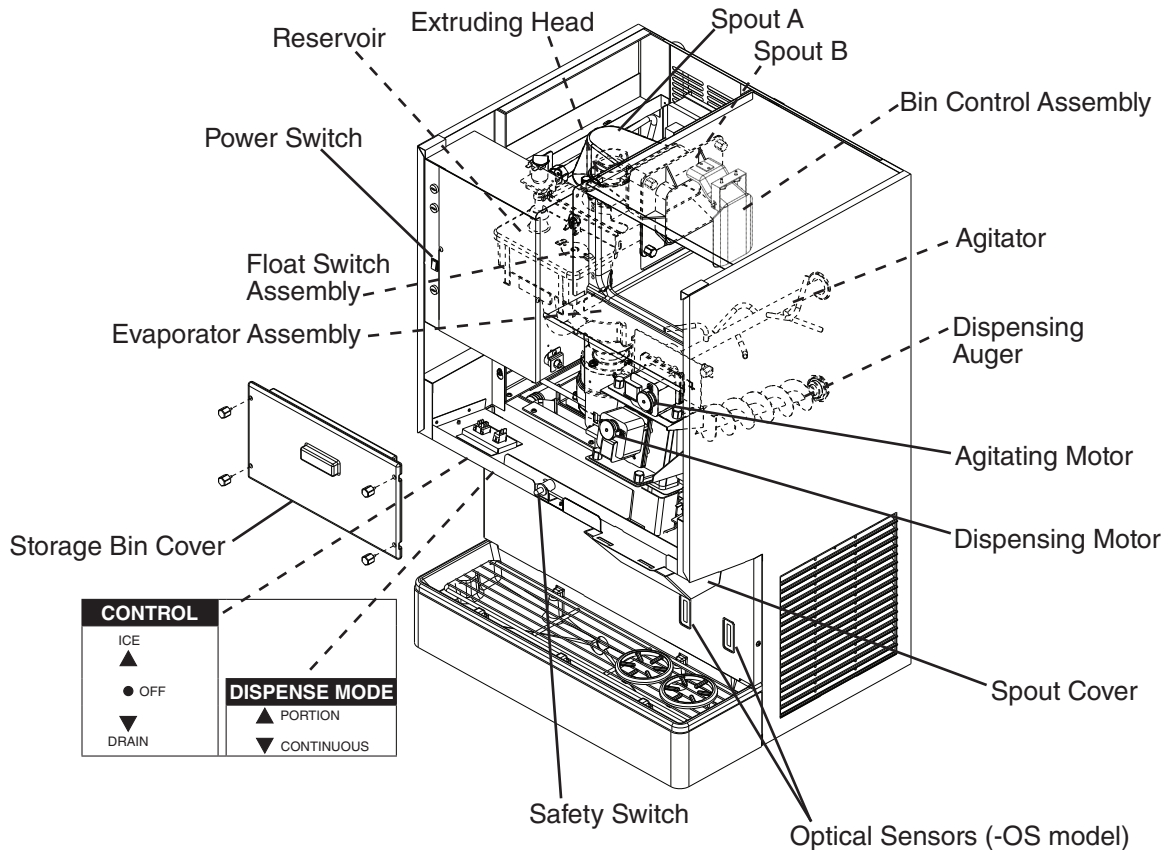

Fig. 7
- 2) Move the control switch to the "DRAIN" position. See Fig. 7. Allow the water system to drain for 5 minutes.
- 4) Remove the motor bracket thumbscrews, first from the vertical plane and then from the horizontal plane. While holding on to the corresponding agitator or auger, move the agitating motor or the dispensing motor towards you. Remove the agitator and the dispensing auger from the storage bin. See Fig. 7.